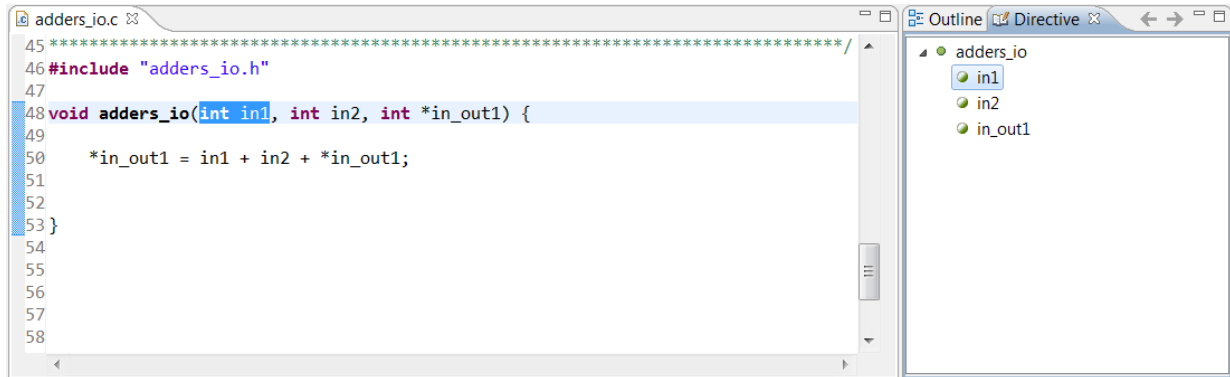

Figure 4-13: Adding Port I/O Protocols
2. Activate the **Directives** tab and select input **in1**, as shown in Figure 4-13.